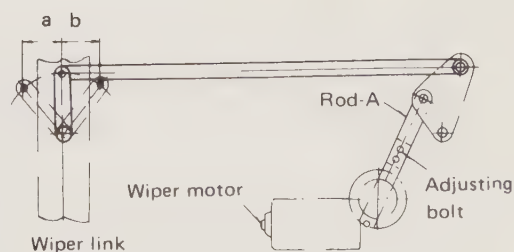

Fig. 10.26. Wiper link adjustment (from 1976)
- a) Refer to Fig. 10.26. If the distance 'a' is longer than 'b' adjust the link to make them equal by loosening the adjusting bolts and increasing the length of rod 'A'.